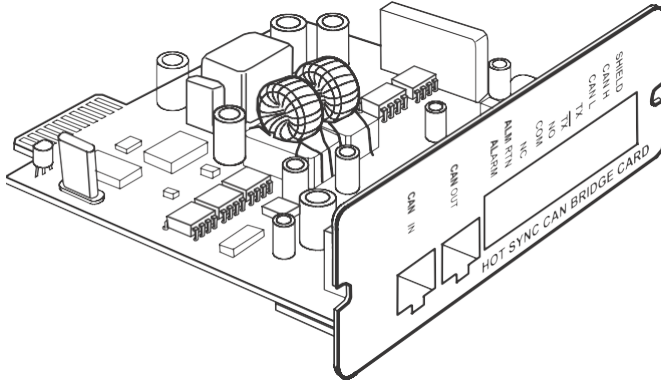

Figure 64. Powerware Hot Sync CAN Bridge Card
4. Unpack the Powerware Hot Sync CAN Bridge Card and verify that the card was not damaged during shipment (see Figure 64).
4. Unpack the Powerware Hot Sync CAN Bridge Card and verify that the card was not damaged during shipment (see Figure 64 on page 79).
3. Unpack the Powerware Hot Sync CAN Bridge Card and verify that the card was not damaged during shipment (see Figure 64 on page 79).